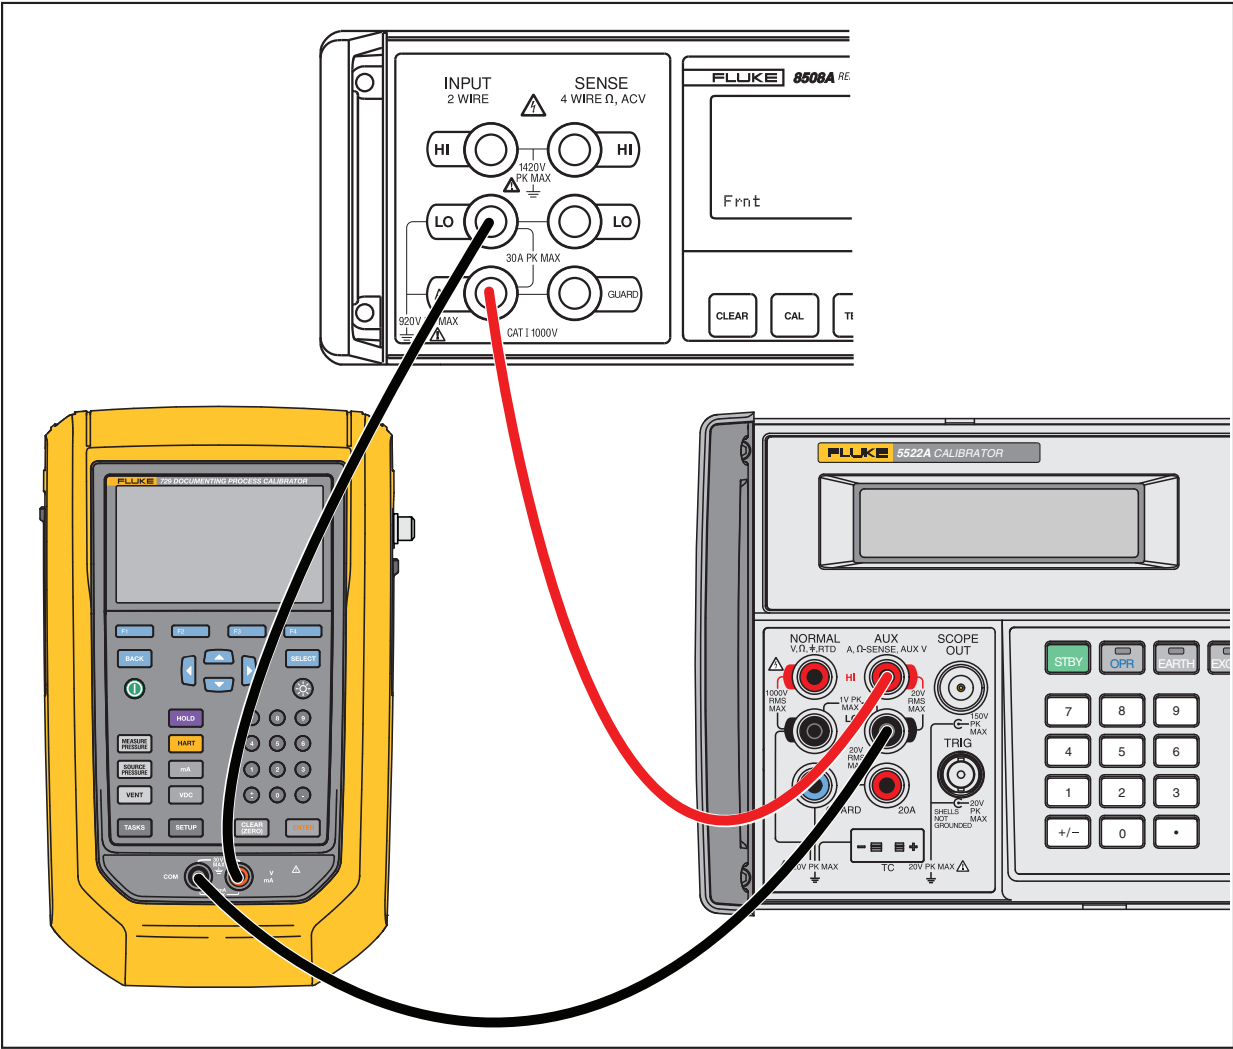

Figure 2. DC Current Measure Verification Connections
2. Connect the Product as shown in Figure 2.